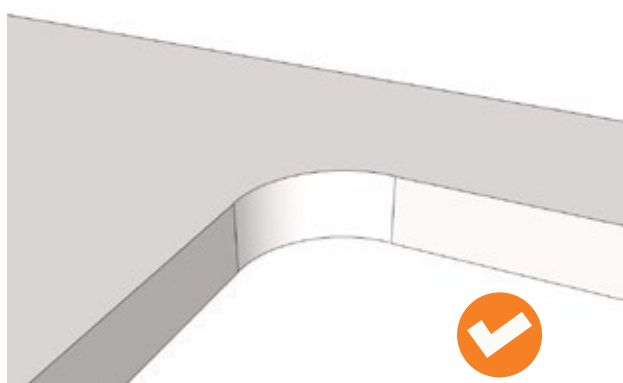

Figure 1
- Include a minimum radius of 15mm for all internal corners in cut-outs (Figure 1). The larger the radius, the stronger the corner.